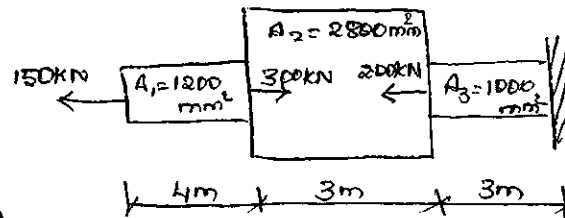

Fig.Q1(b)
b. Evaluate the deformation of the bar, given, $E_1 = E_2 = E_3 = 200\text{GPa}$, refer Fig.Q1(b). (10 Marks)